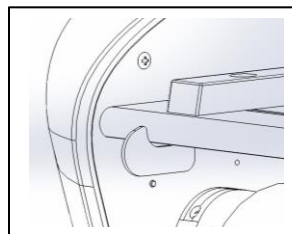

Figure 5
- FEED TABLE LATCHES:** (figure 5) Used to unlock and lock the FEED TABLE.
- FEED TABLE GUIDE:** (figure 5) Aligns items as they are being fed into the laminator. Especially helpful on longer items to reduce skew. The guide can be moved by loosening the knob and sliding the guide